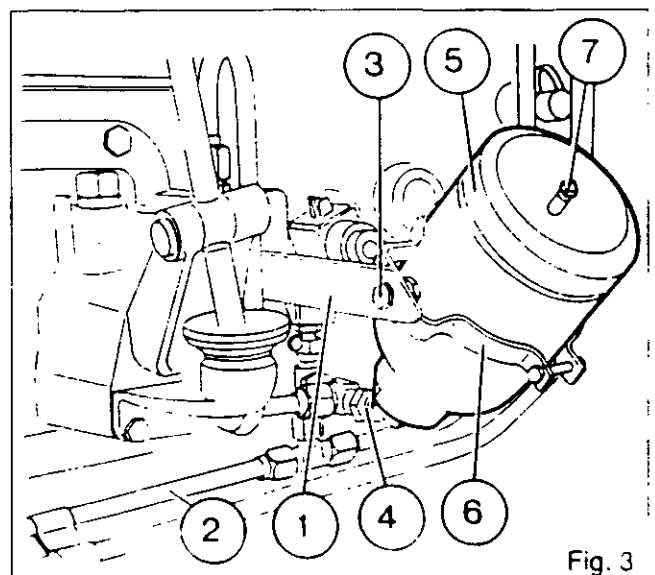

Fig. 3
The movement of the two reduction devices into the Tortoise range drives the rear axle connecting shaft at a speed of 1 revolution per 7.8 revolutions of the box input shaft. When lever A is moved back to the Hare position, the transmission of movement is direct (ratio of 1:1). From serial number P333039, tractors having the «super creeper speeds» version are fitted with an accumulator (Fig. 3) connected to the pipe (2) coming from the 17 bar valve. The purpose of this is to reduce the pressure drop when the super creeper range is engaged. This device is held by a bracket fixed to the selection cover.
**For correct operation, maintain nitrogen inflation pressure of 8 bar, using the valve (7) (Fig. 3). Pressure to be checked once a year.**